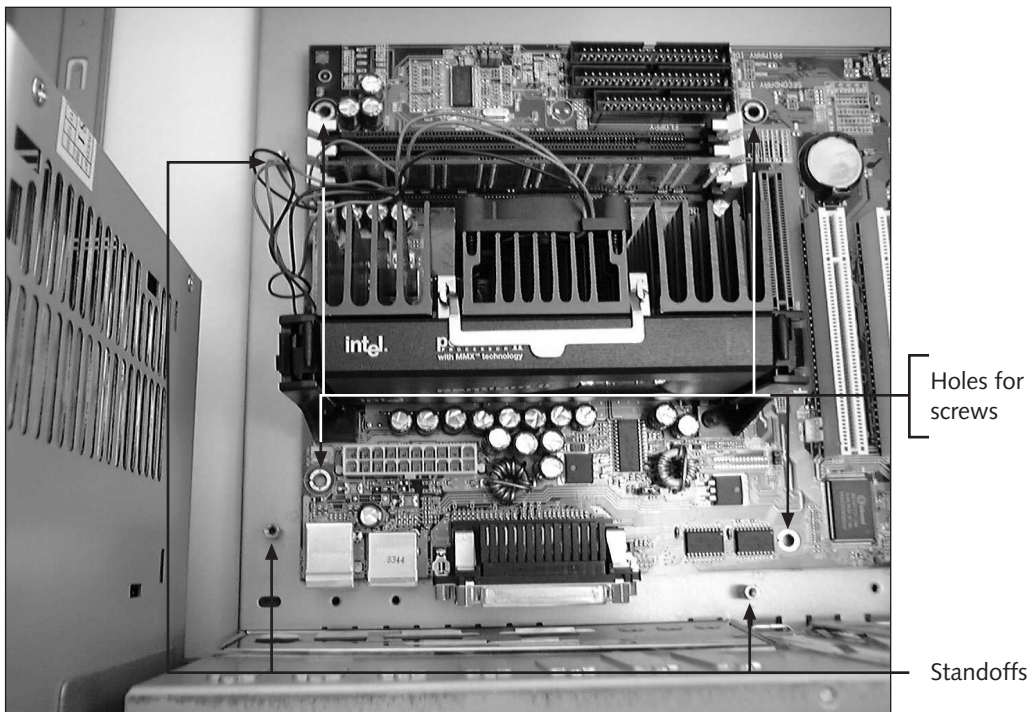

Figure 15-22 Three standoffs and four screw holes are visible
- After the standoffs have been installed in the case, place the system board inside the case and use screws to attach the system board to the case, using the standoffs to receive the screws. Figure 15-22 shows the system board sitting in the computer case. Three standoffs and four screw holes are visible where the board must be moved slightly left and down in order to align the holes over the standoffs.